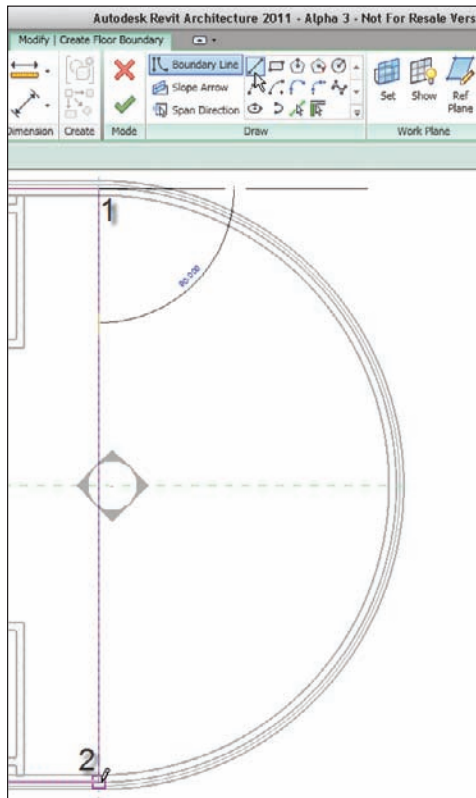

FIGURE 6.26 Sketching a line for the east portion of the entry slab
4. Draw a line from the endpoint of the magenta line at the north wall of the east entry (see “1” in Figure 6.26), to the endpoint of the magenta line in the south wall (see “2” in Figure 6.26).